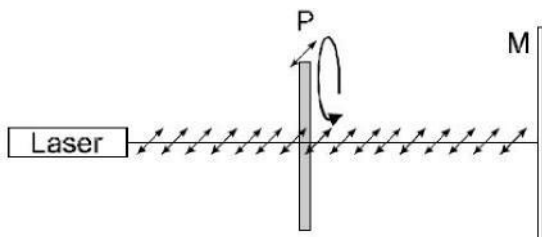

Fig. 9 Demonstration of the polarizing properties of light (P = polarization filter, M = ground screen)
- Set up the experiment as shown in Figure 9.